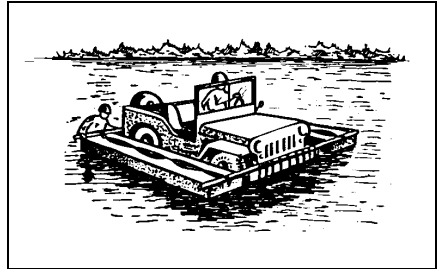

Fig 14-5-5 Canvas Pontoon Raft
8. **Canvas Pontoon Float.** Two box frames are constructed of notched saplings lashed together with wire or cordage. The size is 3.5 m x 0.5 m x 1 m. They are then covered with canvas and attached as outriggers to the vehicle by means of cross members lashed to the front and rear bumpers (Fig 14-5-5). Construction